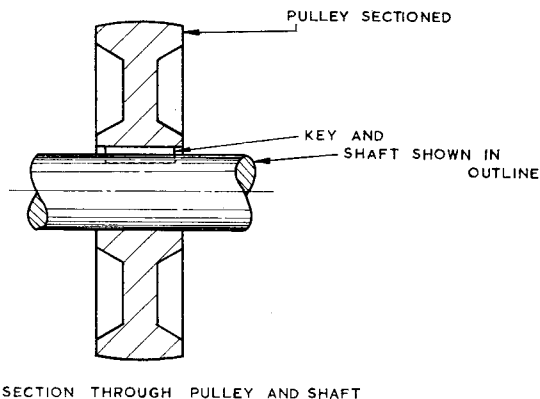

FIG. 34
*Standard Parts:* Many machine parts such as cotters, nuts and bolts, have no internal detail and are more easily recognised by their external shape. Where the cutting plane passes through such parts *lengthways*, they are shown by external views and not in section (Fig. 34). When the cutting plane passes *lengthways* through a rib, spoke, gear tooth or similar thin part, the part is not sectioned. To do